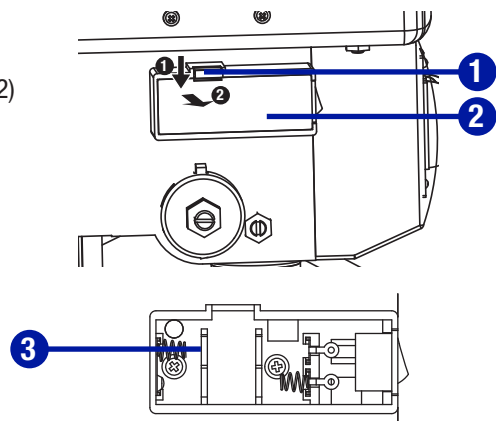

Fig. 8
**LED WORKLIGHT BATTERIES (Fig. 8)**
- Push the tab (1) located on the worklight switch cover (2) down and toward you, then remove it.
- Insert two “AAA” batteries in the worklight battery compartment (3).